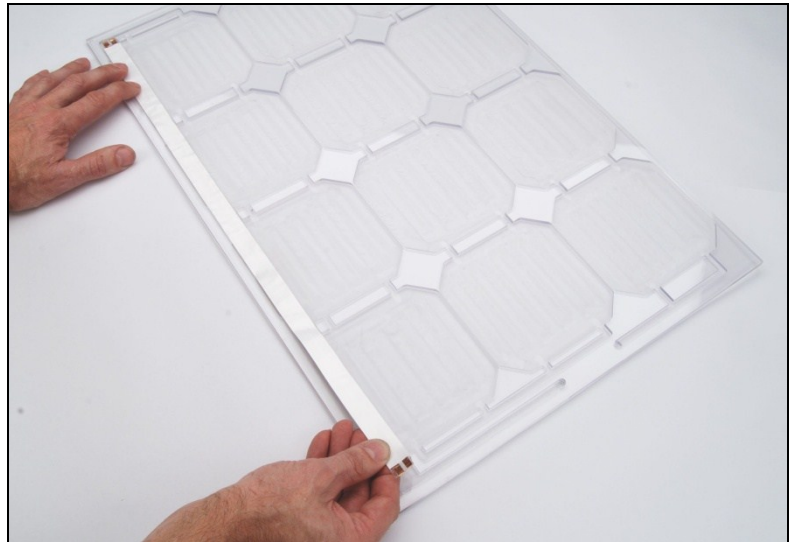

Figure 5
- ✓ Remove the pink protective strip (exposing the adhesive side), and place the double conductor bus-bar in groove "A", as shown in Figure 5.